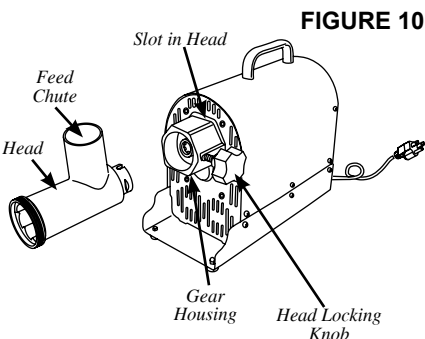

FIGURE 10
1. Insert the **Head** into the **Gear Housing** with the feed chute of the **Head** facing straight up. You will need to line up the slot in the **Head** with the **Pin** inside the **Gear Housing**. Be sure the **Head** is seated fully into the **Gear Housing** (Figure 10).